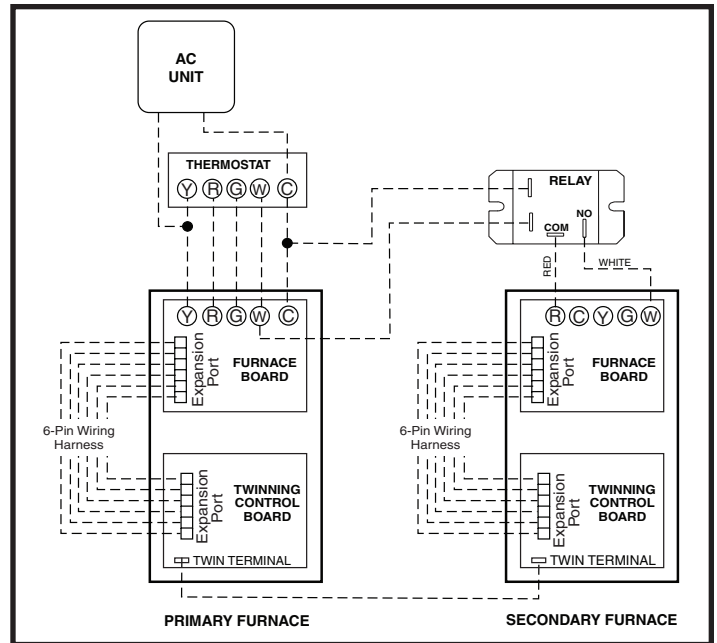

Figure 2. Single Stage Twinning (Normal operation)
5. Connect the 6 pin harness to the expansion ports on the twin board and the furnace control board. See Figure 2.
8. Attach a wire between the two twin terminals on the twinning control boards (Figure 2). Use field supplied wire and two 3/16" wire terminals supplied with the kit.